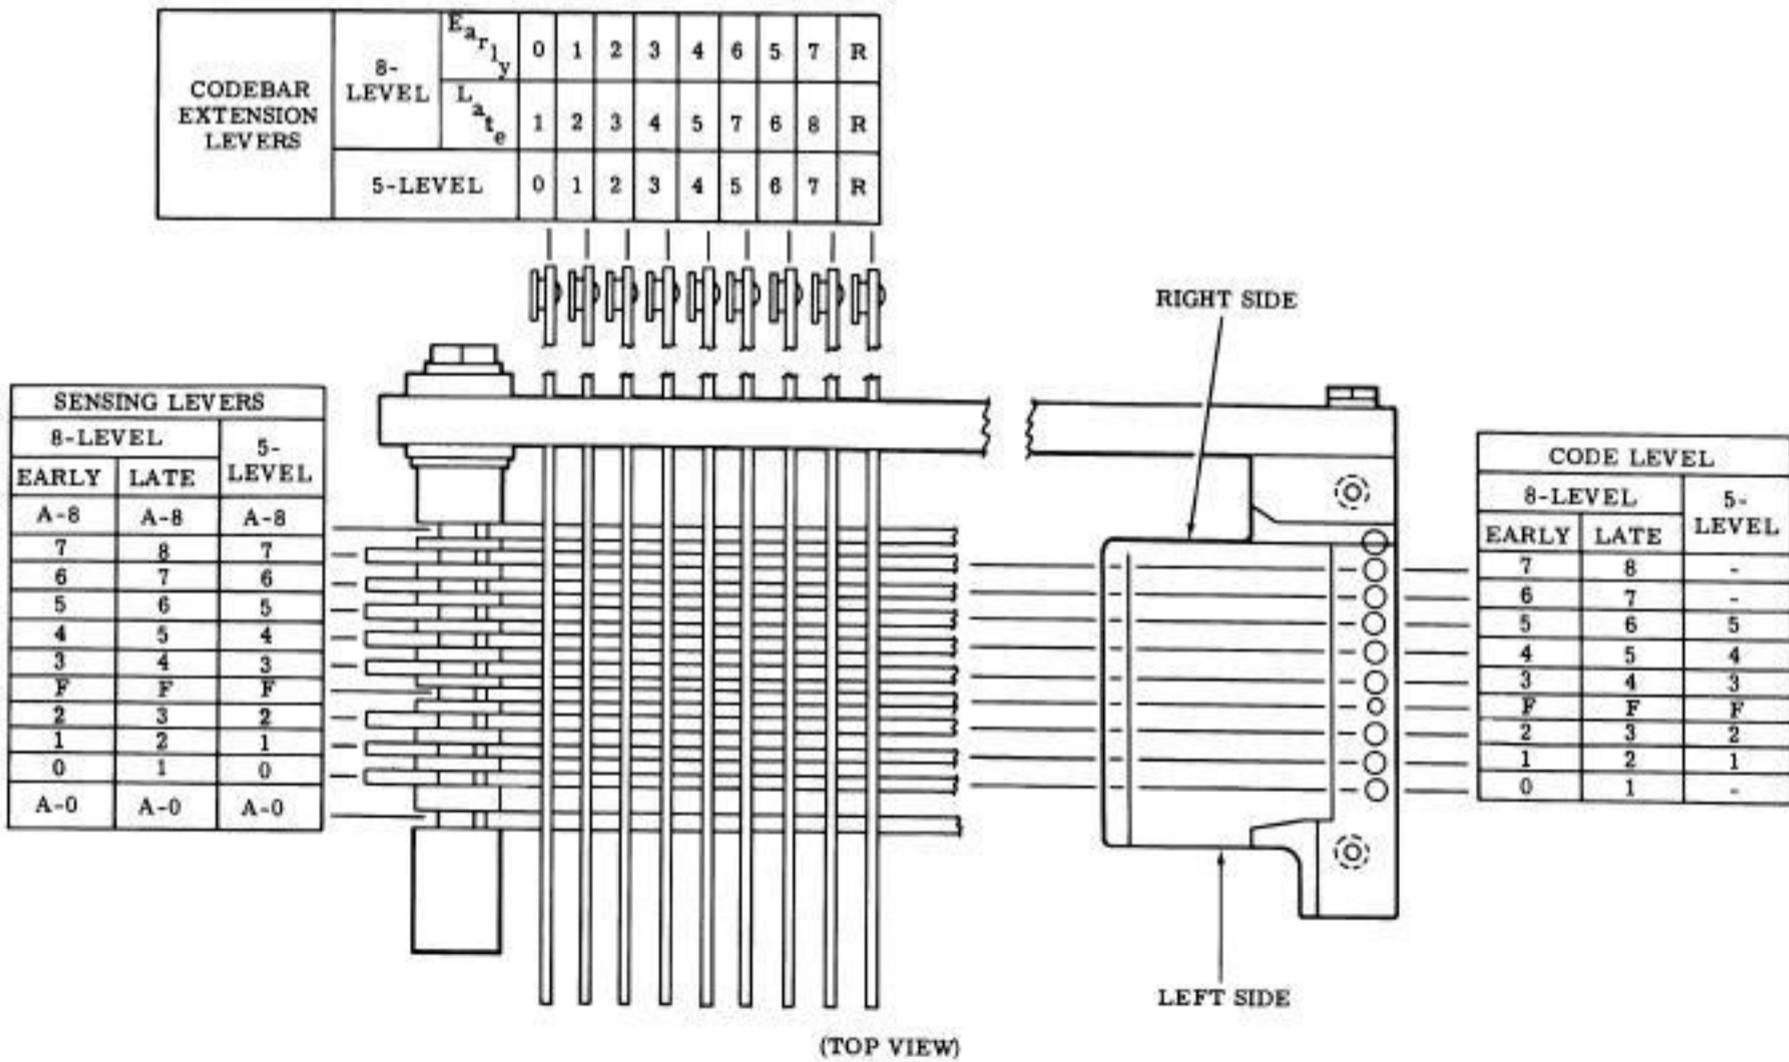

Figure 2 - Tape Punch Code Level Cross Reference Chart
1.17 Coded intelligence is transferred from the typing unit selector to the tape punch via the codebar extension, sensing levers, etc. This coded intelligence is ultimately evidenced by the code combinations which are punched into paper tape by the punch pins which are located in the punch block assembly of the tape punch. Each punch pin, except the feed (F) punch pin, represents a code level. The relationship between code levels, sensing levers, and codebar extension is illustrated in Figure 2.
Note 1: For those 5-level tape punches equipped with an auxiliary drive bail TP182186, repeat the above procedure with a FIGS D code combination set up in the selector. Omit checking the lever in the no. 3 code level position (Figure 2), since it is not operated.
(Figure 2) and its associated pawl.
Note 2: There shall also be some clearance between the rightmost sensing lever (Figure 2) and its associated pawl.